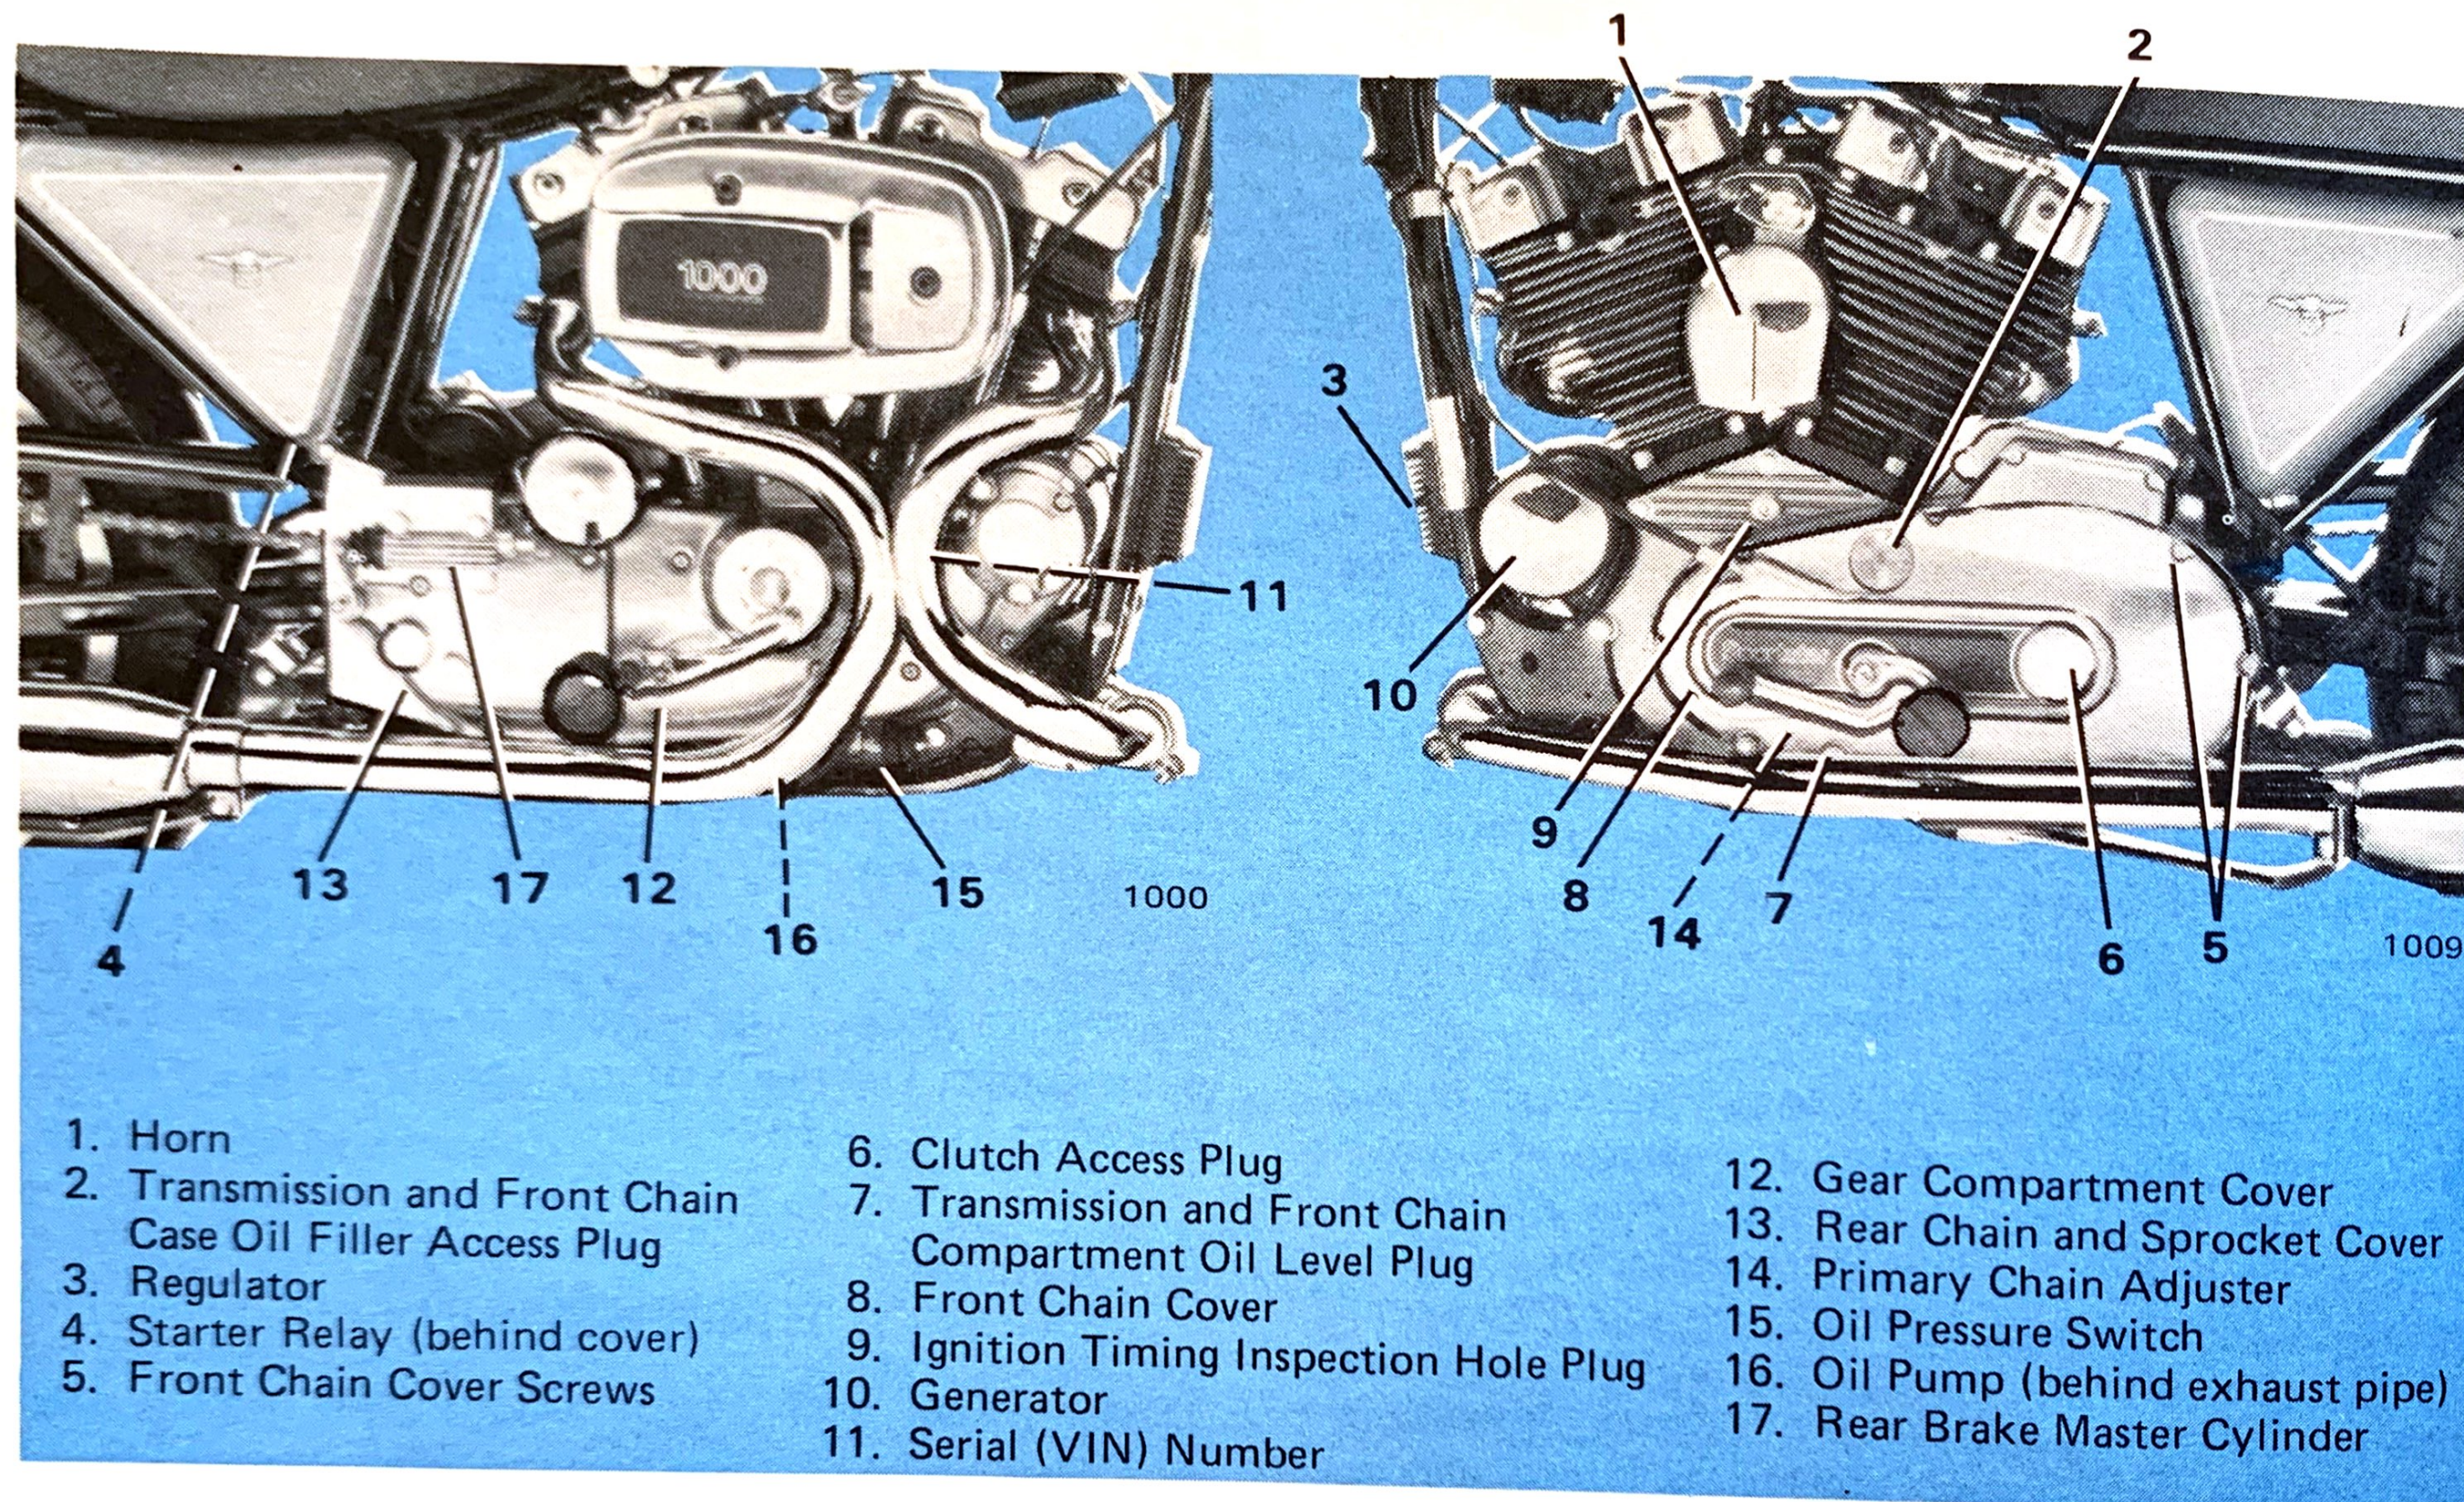

FIGURE 12. MODEL XLH/XLS ENGINE
*If the oil lines are removed for any reason, oil pump (16, figures 12 and 17) must be primed. Loosen oil pressure switch (15) at front of oil pump enough to allow about 1 ounce of oil to blow from threaded connection while*
### Transmission and Front Chain (See figure 12)